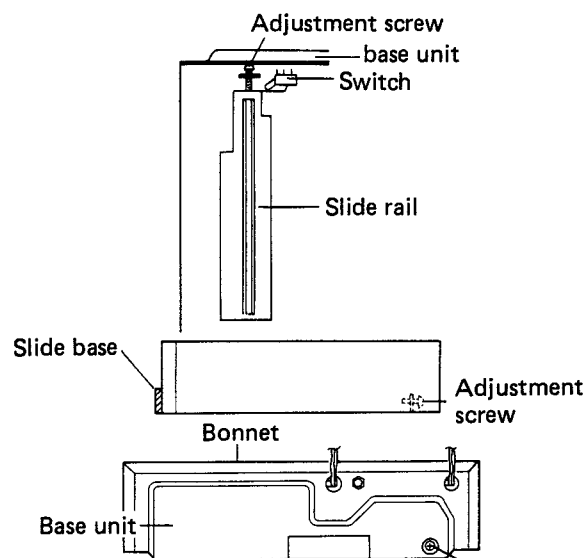

Fig. 1-23 Normal inserted slide base position adjustment
■ Mounting Gear (F)
2. Then while pushing the drive lever rack and slider towards the front panel, insert gear (F) into the escutcheon cover gear (F) mounting boss. Be careful not to push the slider too firmly (towards the front panel) since the slide base cover might also move.
3. Secure gear (F) by screwing in the relevant screws. After tightening the screws, press against the top of the door to check that the door is not loose.
- D. This adjustment simply involves turning the adjustment screw from the rear of the turntable as shown in Fig. 1-23.
6. Undo screws ⑤ and remove the lead guide. Then without applying too much force, carefully disconnect the leads from the tonearm and other parts.
7. Remove the tonearm section by undoing screws ⑥.